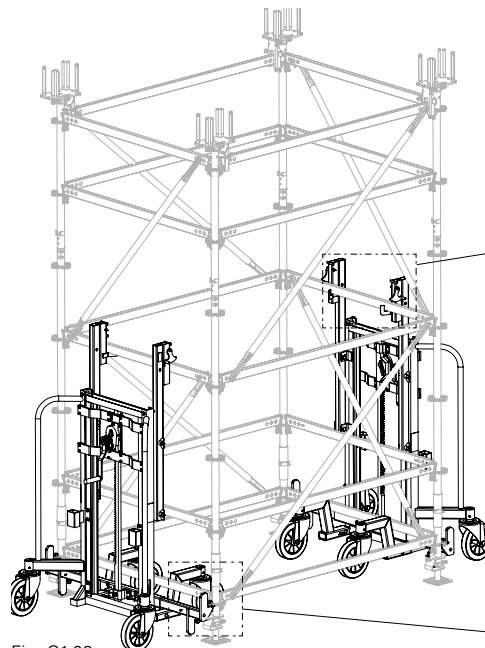

Fig. C1.02
4. Raise the lifting devices evenly until the dead weight of the shoring tower has been transferred to the trolley with winch and sufficient ground clearance has been achieved. (Fig. C1.02)